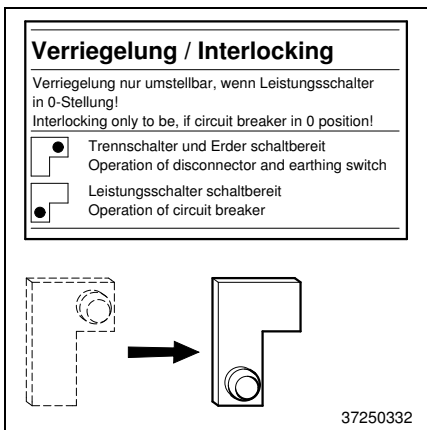

Fig. 51
**8** Activate the interlock between the circuit-breaker and the disconnector or earthing switch respectively. Do this by moving the operating lever from the top right to the bottom left position (Fig. 51) (see also Chapter 4.9, "Panel Interlocks").